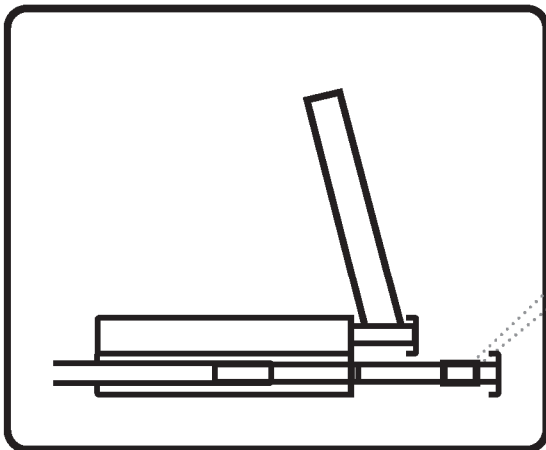

Figure 1.
- A black arrow release button is located on the outside of each slide in the keyboard drawer. (shown in **Figure 1**).